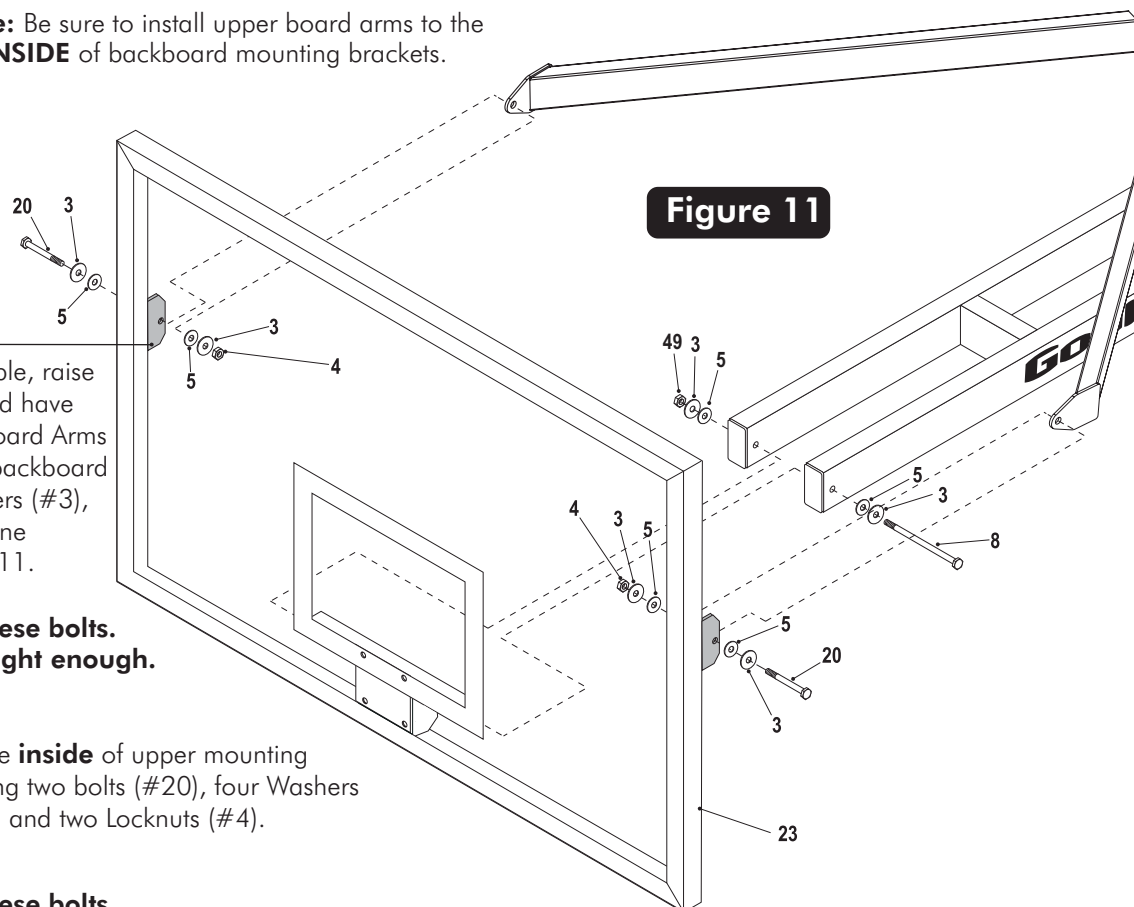

Figure 11
14. With at least four capable people, raise the backboard assembly up and have the fifth person attach Lower Board Arms to the Rim Support (# 21) on backboard using one bolt (#8), two washers (#3), two Plastic washers (#5) and one thin locknut (#49). See Figure 11.
15. Attach Upper Board Arms to the **inside** of upper mounting brackets on the backboard using two bolts (#20), four Washers (#3), four Plastic Washers (#5) and two Locknuts (#4). See Figure 11 and Detail A2.